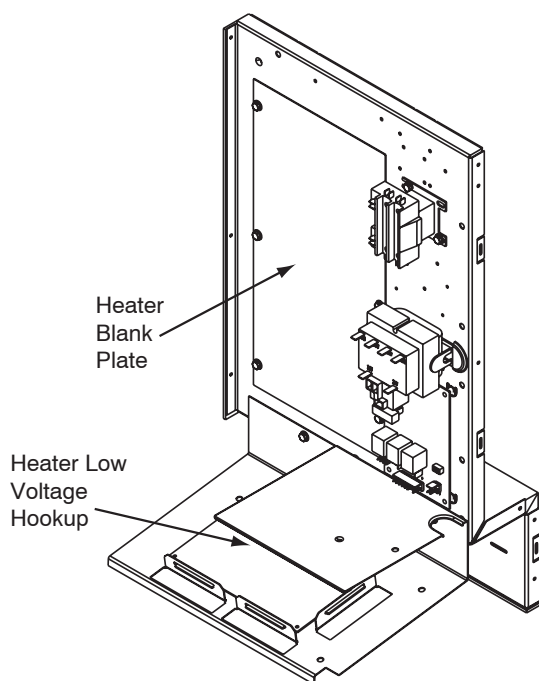

Fig. 2 - Unit Control Box
5. Locate and remove the heater access cover plate inside unit access panel (See Fig. 2). Save screws.
4. Connect low voltage wires as shown in unit schematic diagrams. Low voltage wires from heater control terminate in a harness plug; the mating 5 pin connector is located on the control board found at the bottom of the control box (See Fig. 2 and 3).